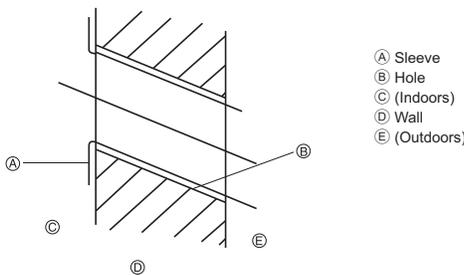

Fig. 3-2
- (J) Knockout hole (87-ø5.4 mm, 7/32 inch)
- (K) Piping hole (ø65 mm, 2-9/16 inch)
- (L) Slot (4-4.5 × 40 mm, 11/64 × 1-37/64 inch)
- (M) Slot (4-4.5 × 37 mm, 11/64 × 1-29/64 inch)
- (N) Slot (4-11 × 20 mm, 7/16 × 25/32 inch)
- (X) Wall mounting fixture
- (Y) Hole centre
- (Z) Align the scale with the line.
- (V) Insert scale.
3.1.2. Drilling the piping hole (Fig. 3-2)